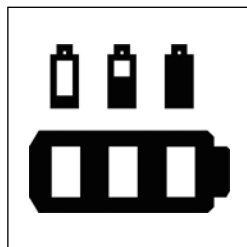

Figure 15 Battery indication hand control.
- There is a battery indication on the hand control *(see figure 15).*